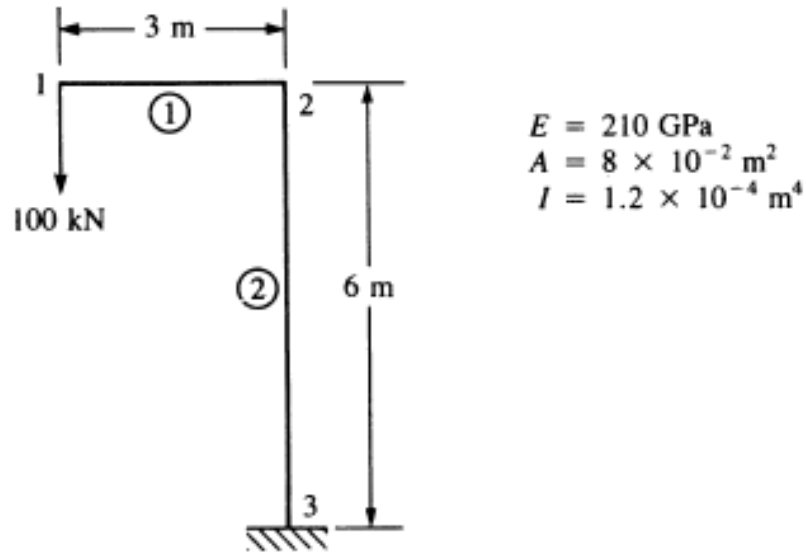

Figure P3.9
9. For the rigid frame shown in **Figure P3.9**, determine the displacements and rotations of the nodes, the element forces, and the reactions. The values of E , A and I to be used are listed next to each figure.